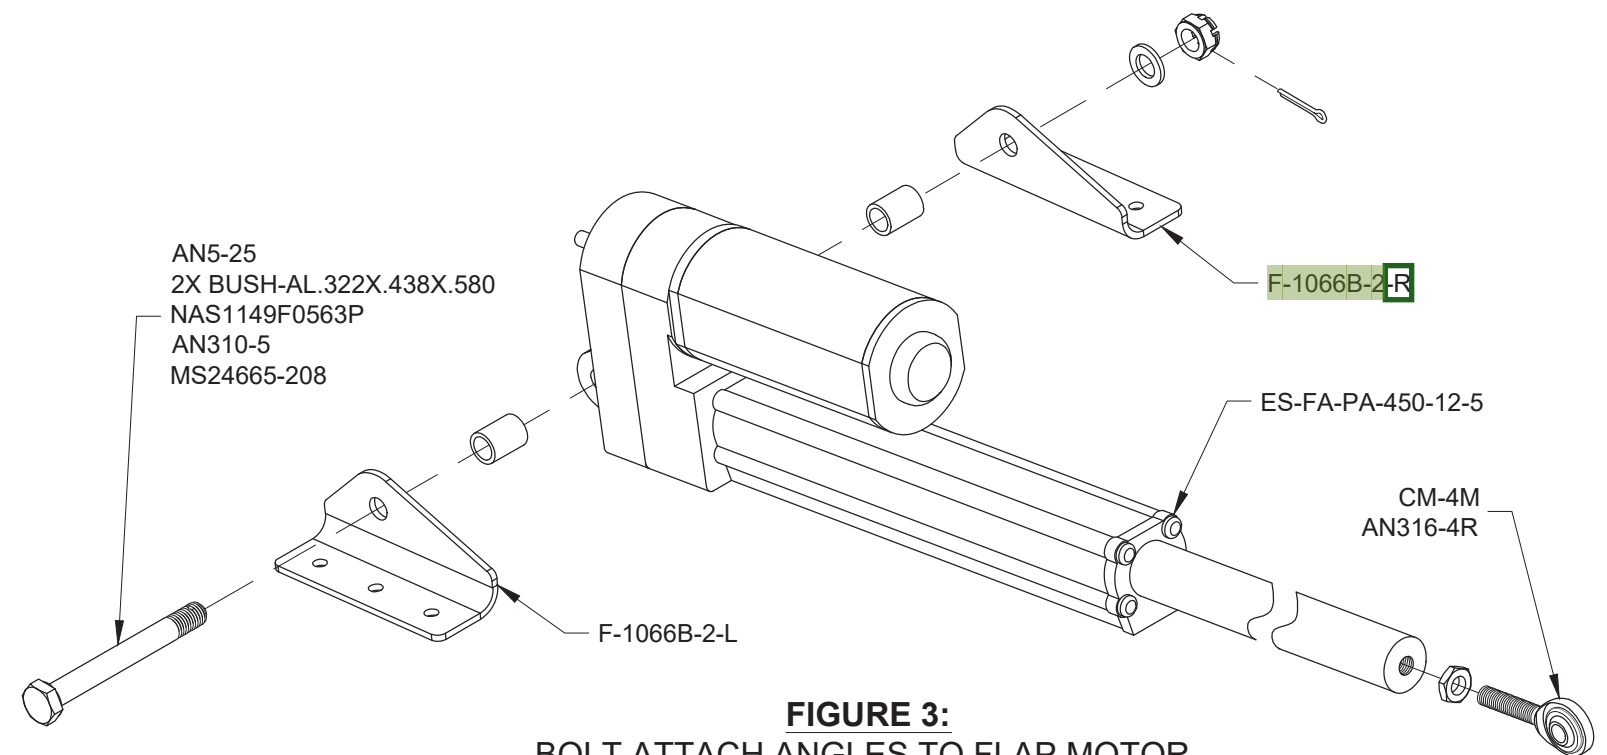

FIGURE 3:
Step 3: Install the jam nut and rod end bearing into the shaft of the ES-FA-PA-450-12-5 flap motor as shown in Figure 3.
Step 5: Assemble the ES-FA-PA-450-12-5 Flap Motor, **F-1066B-2-L** and **F-10966B-2-R** using the hardware and bushings called out in Figure 3. Tighten the castle nut just enough to remove end play but not enough to add excessive friction. The cotter pin will be installed later.
Step 3: Check for excessive friction and/or play. When satisfied install the cotter pin from Page 40-6, Figure 3.